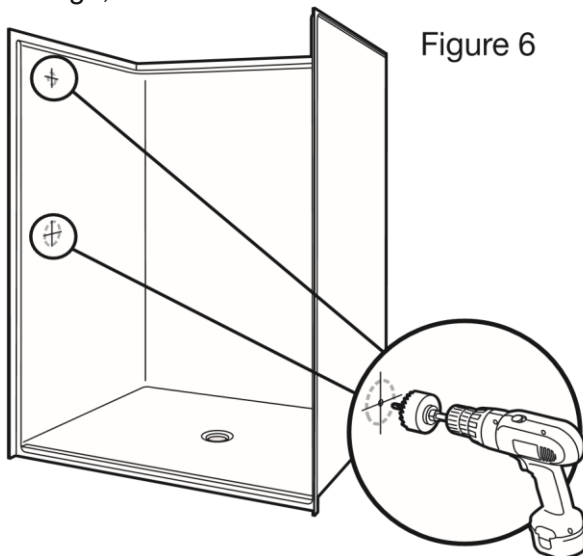

Figure 6
6. Mark fitting locations. (Refer to measurements from step 4). Using a hole saw (fine tooth or abrasive grit cutting edge) make necessary openings for fitting and valves, drilling from the inside (smooth side) out. See Figure 6.
4. Mark fitting locations. (Refer to measurements from step 4). Using a hole saw (fine tooth or abrasive grit cutting edge) make necessary openings for fitting and valves, drilling from the inside (smooth side) out. See Figure 6.